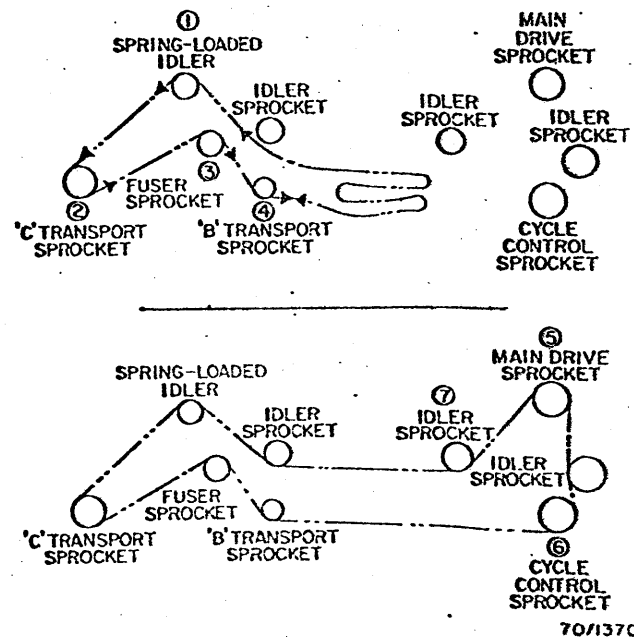

Fig. 3-7. Replacing Broken Main Drive Chain
6. Thread one end of the chain to the left (Fig. 3-7), over the spring-loaded idler (1), and counterclockwise around the C transport sprocket (2), then thread the same end to the right, over the fuser sprocket (3), and under the B transport sprocket (4). Connect the chain ends with a connector link.